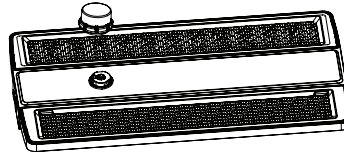

FIGURE 2
Step 2: Securely twist-lock the Z10 sensor to the base for proper functionality, and utilize a remote control to adjust the working mode according to your needs. (Refer to Figure 2).